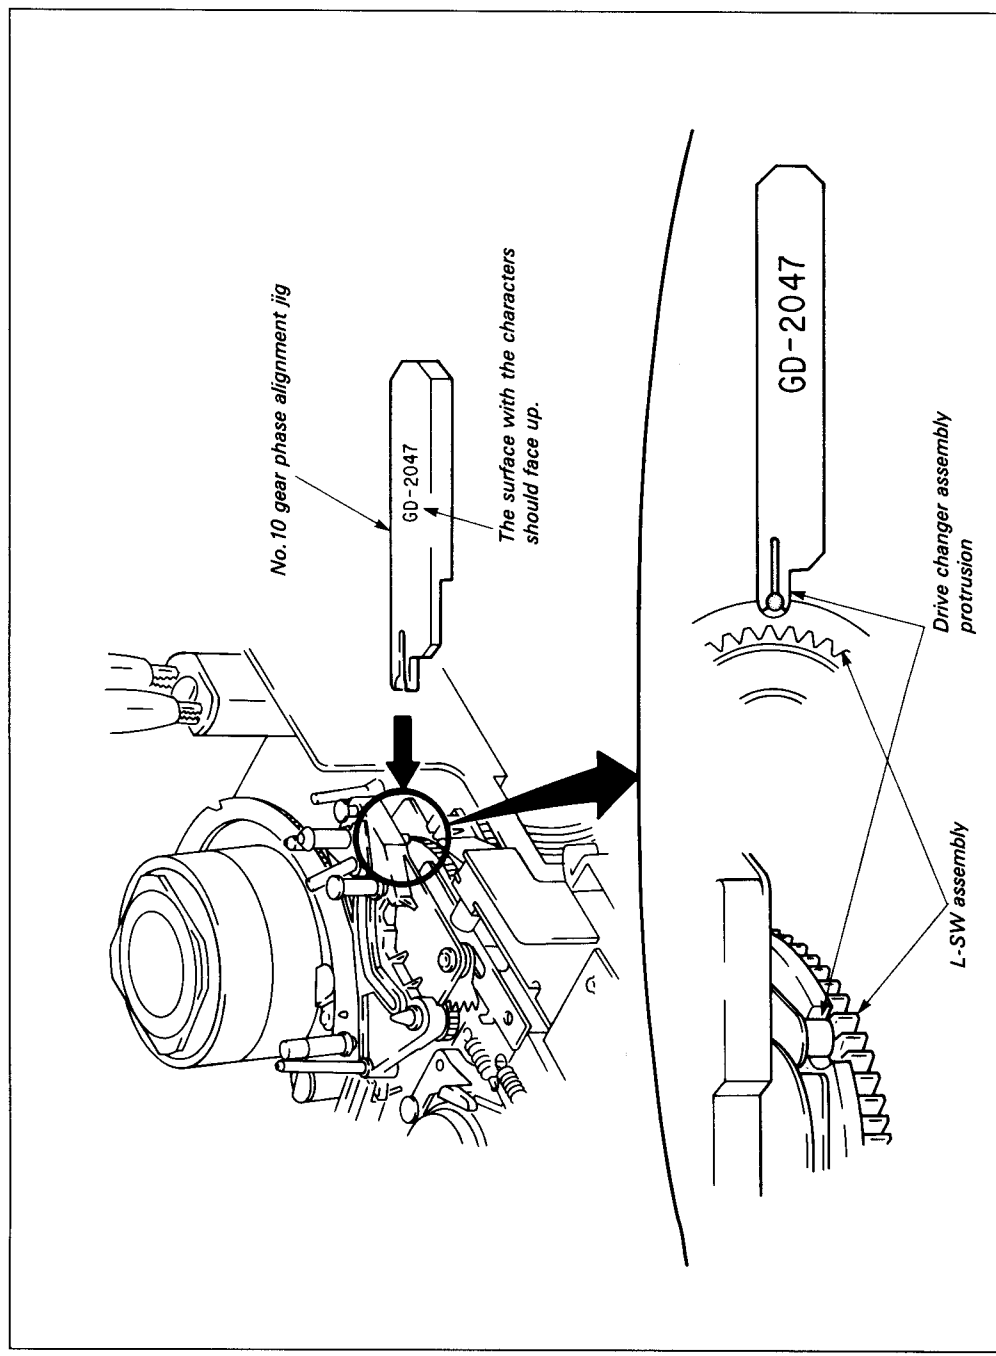

Fig. 7-13.
- 5) Check that the protrusions on the drive changer assembly are in the indentations of the L-SW assembly and insert the No. 10 gear phase jig (Ref. No. J-9). (See Fig. 7-13.)